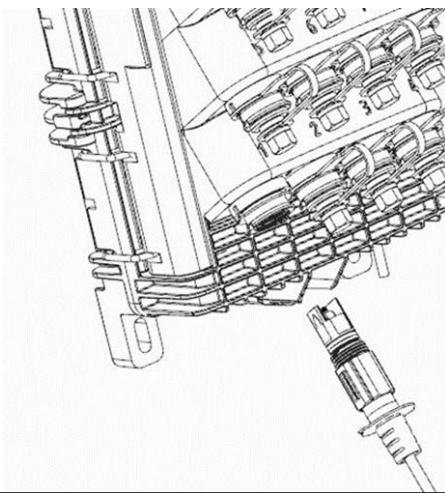

Figure 16 Connecting Drop Cable to Mini-OTE Optical Port
11.1.5 Align the drop cable connector with the optical port as shown in Figure 16. The pointer on the drop cable connector should line up with the notch on the optical port.
11.2.4 Thread the optical port dust cap into the optical port and tighten using the 216C key tool (see Figure 16).